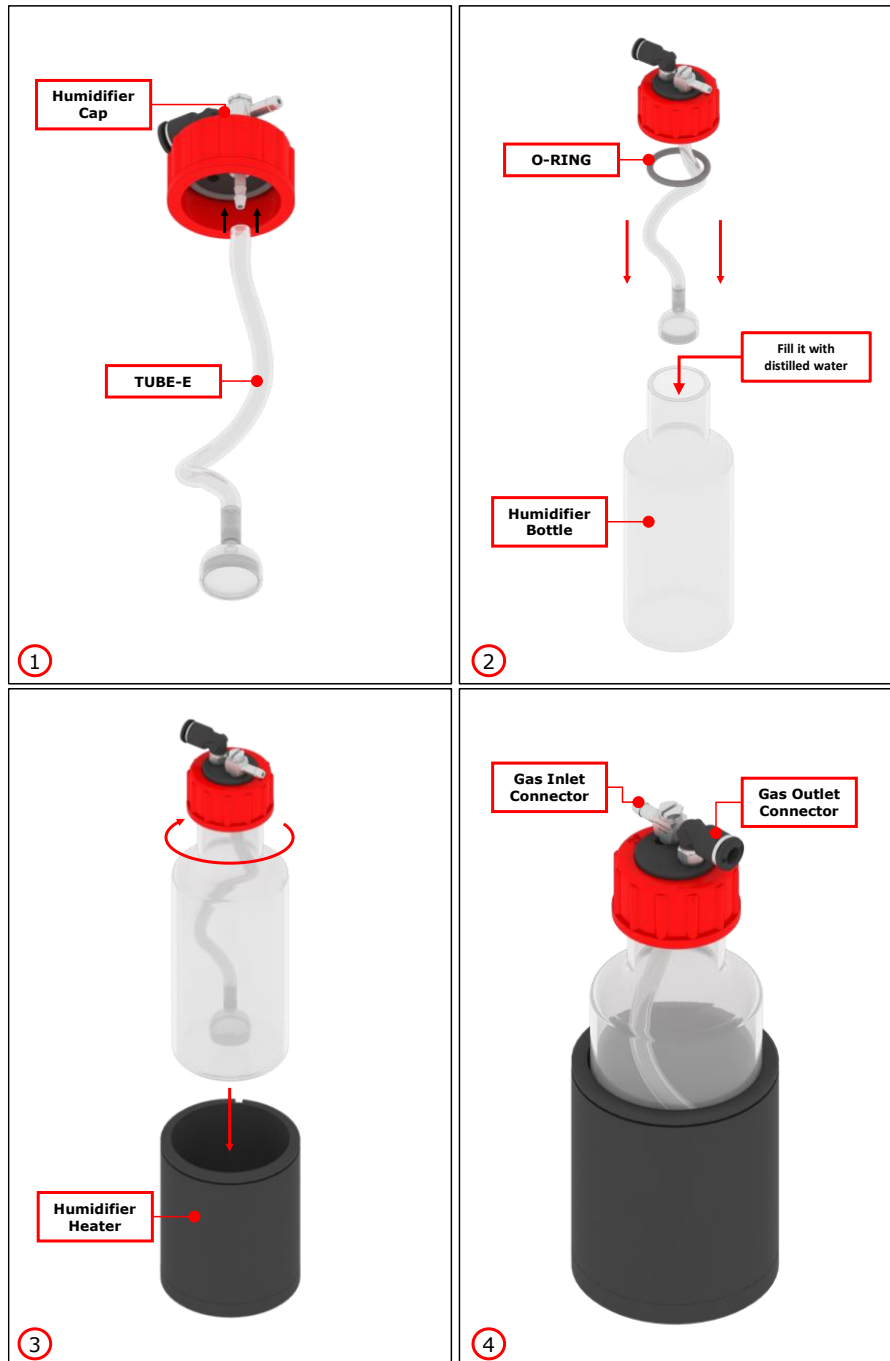

Figure 9. Humidifier - Assembly.
1. Connect TUBE-E to the connector located inside the Humidifier Cap (see image 1 in Figure 9).
2. Fill the Humidifier Bottle with distilled water and insert the TUBE-E with the Humidifier Cap. Make sure to place the O-RING on the lip of Humidifier Bottle's neck (see image 2 in Figure 9).
3. Screw the Humidifier Cap and place the Humidifier Bottle in its heater (see image 3 in Figure 9).
The Humidifier Cap is equipped with a Gas Inlet connector, barb connector for 4 mm I.D. silicon tube, and a Gas Outlet connector, push to fit connector for 6 mm O.D. rigid tube (see image 4 in Figure 9).